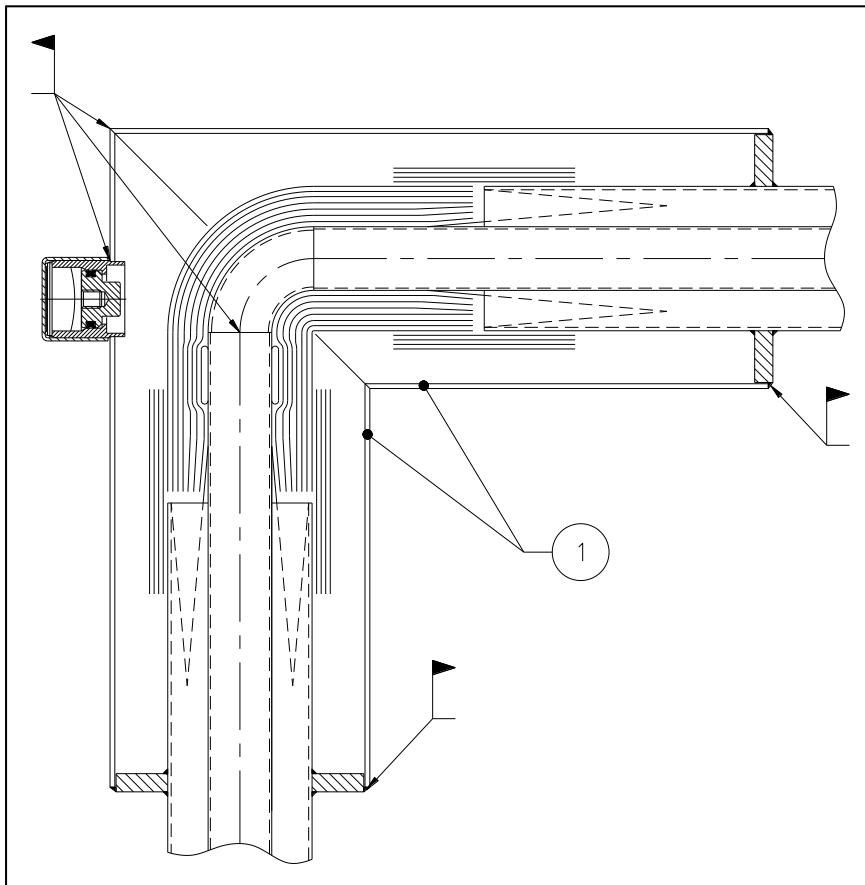

figure 5; *Corner welded coupling*
Apart from the above described straight welded coupling, Demaco Holland B.V also supplies a corner welded coupling. This coupling is used when two sections have to be connected at an angle of 90°. For this coupling the same fitting procedure applies as for the straight welded coupling. The only difference is the jacket (Fig.5, pos.1), which is, for this version, composed of two sections instead of one pipe section. These two sections must, before the inner piping is welded, be slid around both sections. Figure 5 shows a cross section of the Demaco corner welded coupling.